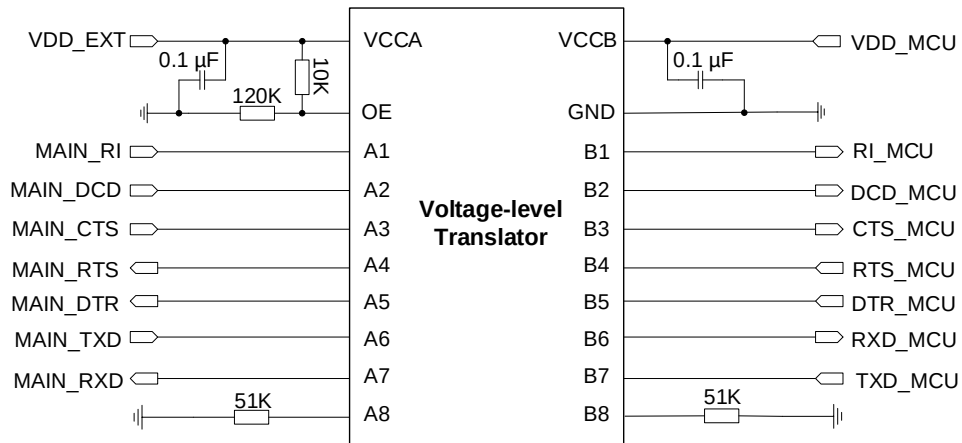
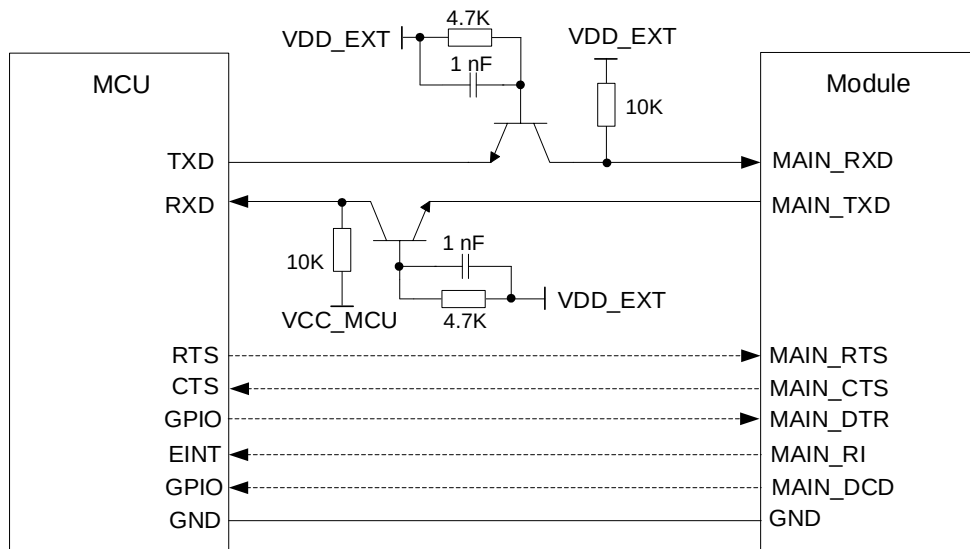

Figure 27: Reference Design of UART Interface with a Voltage-level Translator (Main UART)
Figure 28: Reference Design of UART Interface with Transistor Circuit (Main UART)
4. The level-shifting circuits (**Figure 27** and **Figure 28**) take the main UART as an example. The circuits of the debug UART is connected in the same way as the main UART.